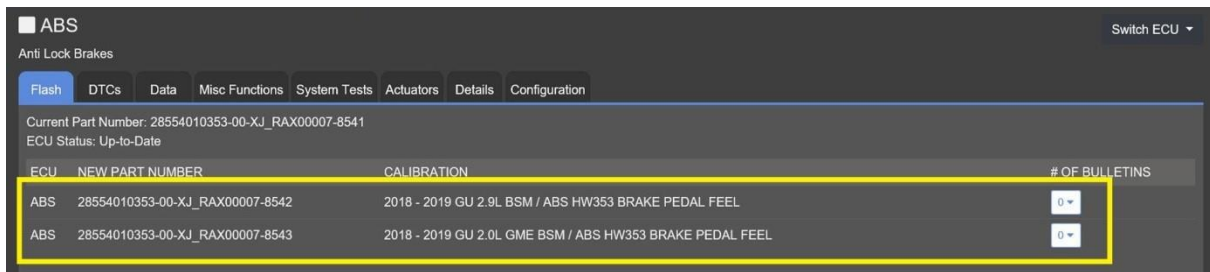

Figure 10 – ABS/BSM Brake Pedal Feel Software Flash Files
The brake pedal feel software flash may be performed on all (GU) Stelvio vehicles and will modify brake pedal feel. However, this flash is NOT required for Procedure A of this recall and labor time to perform this flash will NOT be reimbursed (Figure 10):